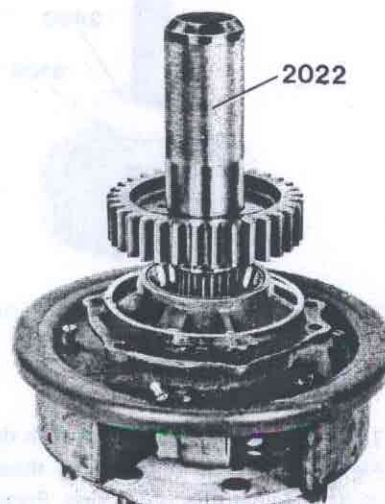

Fig. 77-20. Installing the gear wheel
3. Press down the gear wheel with sleeve 2022 so far that the hub has a clearance of a small fraction of an inch, Fig. 77-20, while rotating the hub at the same time in order to make it easier for the gear wheel to fit into the inner sealing ring. Fit the O-ring, the washer with the sealing agent on the underside and a new nut. Pull down the gear wheel with the nut so that the clearance disappears.